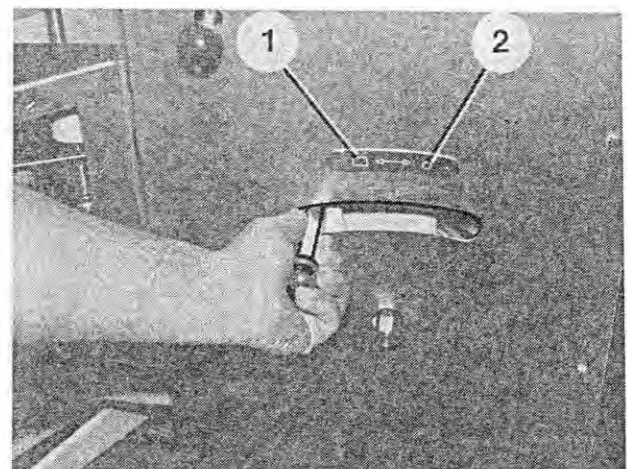

Fig. 193
3. Switch the drive of the folding unit over to the appropriate format (Figure 193/1 or 2) by reversing the lever.